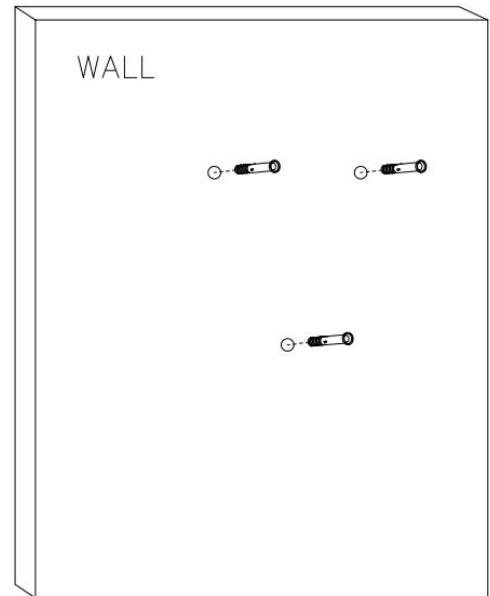

Figure 4-27 Installing plastic expansion tubes
- Insert $\phi 8 \times 60$ expansion tubes into the holes (as shown in Figure 4-27).